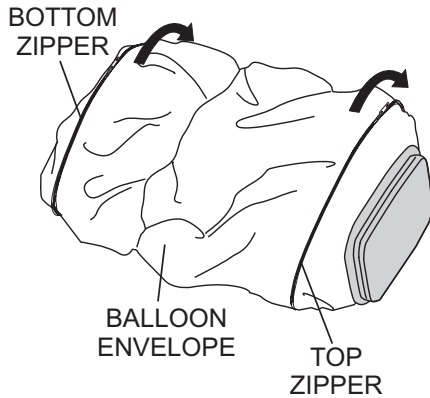

Figure 24. Unzipping the Balloon Envelope
1. Unzip the zipper (Figure 24) at the top and bottom of the balloon envelope (cover).